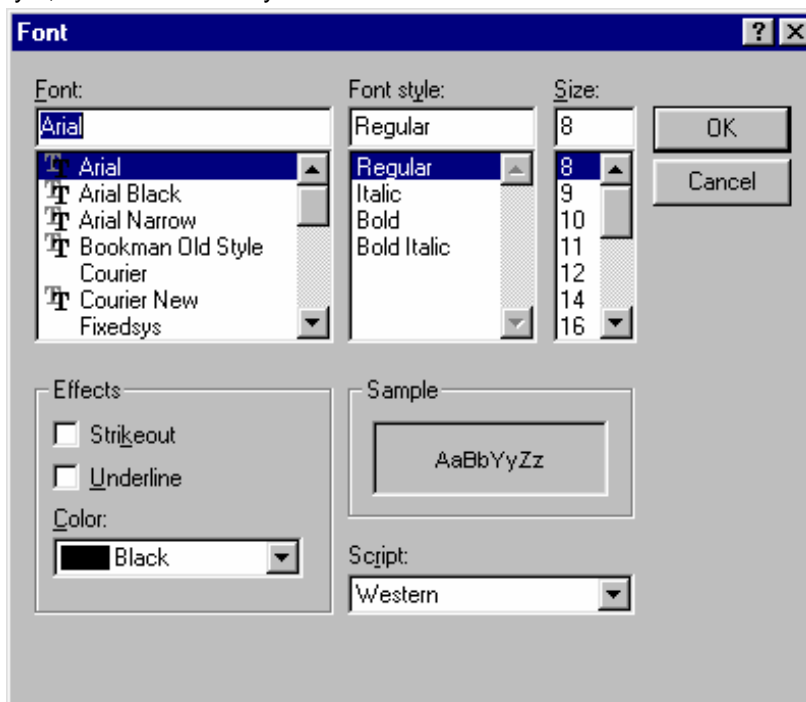

Fig.17.1
1. On the Advance-Download menu, click Font, click to External Flash Memory. (refer to the Fig.17.1)